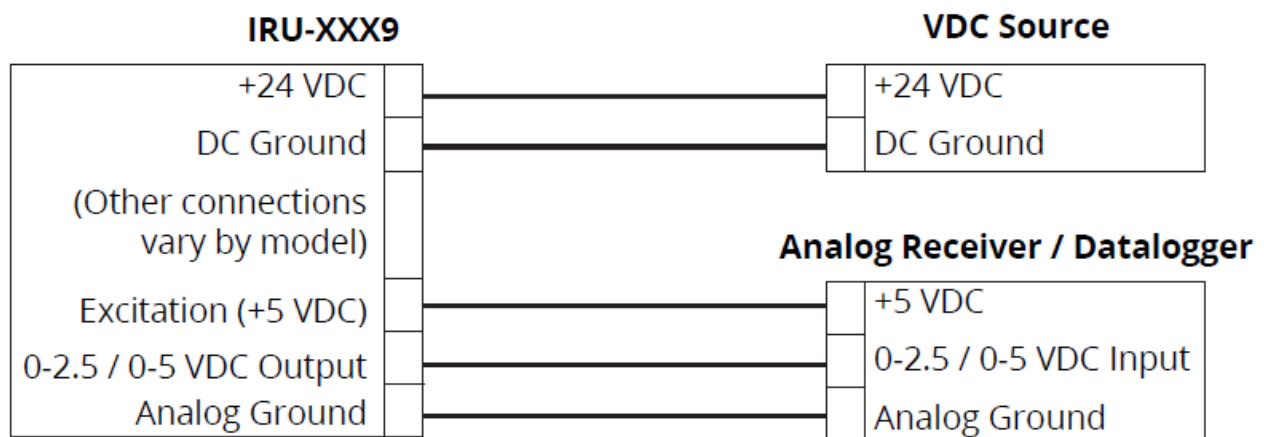

Figure 1.4
- 0-2.5 / 0-5 VDC IRU sensors include an +5 VDC Excitation input. (See Figure 1.4) If voltage is not applied at the Excitation input, the sensor will not communicate for programming, nor will it provide the 0-2.5 / 0-5 VDC output.